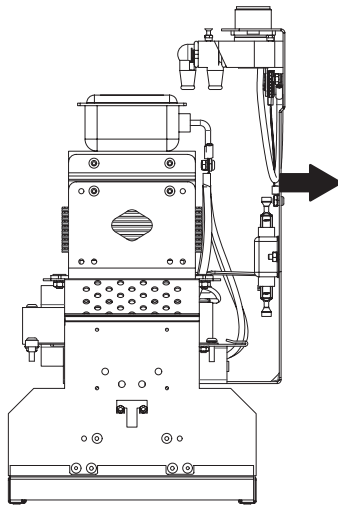

Figure 6-17 Removing the Transformer Bracket (External Blower Version Shown)
4. See Figure 6-17. Pull the the transformer bracket from the waveguide assembly far enough out to access the wiring connections.